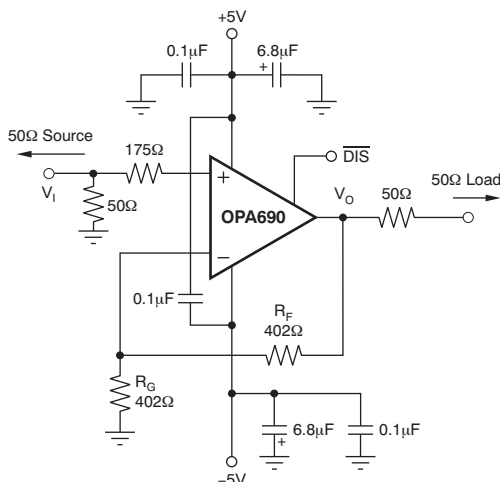
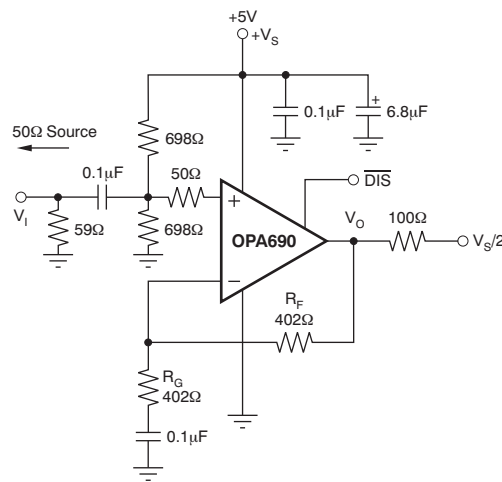
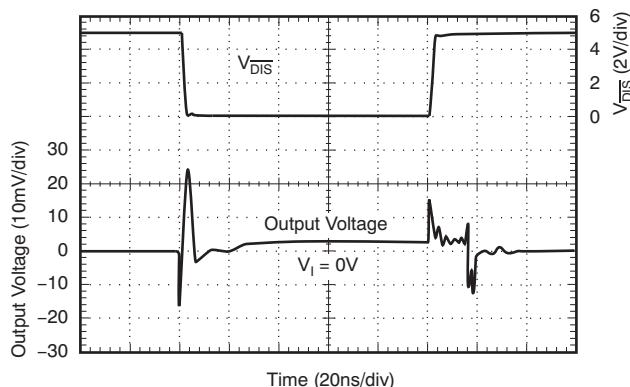

Figure 36. DC-Coupled, G = 2, Bipolar-Supply Specification and Test Circuit
Figure 37. AC-Coupled, G = 2, Single-Supply Specification and Test Circuit
Figure 44. Disable or Enable Glitch
$T_A = 25^\circ\text{C}$, $G = 2$, $R_F = 402\ \Omega$, and $R_L = 100\ \Omega$; see Figure 36 for AC performance only (unless otherwise noted)
$T_A = 25^\circ\text{C}$, $G = 2$, $R_F = 402\ \Omega$, and $R_L = 100\ \Omega$; see Figure 37 for AC performance only (unless otherwise noted)
Figure 36 shows the DC-coupled, gain of 2, dual power supply circuit configuration used as the basis of the ± 5 V and *Typical Characteristics: $V_S = \pm 5$ V*. For test purposes, the input impedance is set to 50 Ω with a resistor to ground and the output impedance is set to 50 Ω with a series output resistor. Voltage swings reported in the specifications are taken directly at the input and output pins, while output powers (dBm) are at the matched 50- Ω load. For the circuit of Figure 36, the total effective load is 100 $\Omega \parallel 804 \Omega$. The disable control line is typically left open to ensure normal amplifier operation. Two optional components are included in Figure 36. An additional resistor (175 Ω) is included in series with the noninverting input. Combined with the 25- Ω DC source resistance looking back towards the signal generator, this gives an input bias current cancelling resistance that matches the 200- Ω source resistance seen at the inverting input (see *DC Accuracy and Offset Control*). In addition to the usual power-supply decoupling capacitors to ground, a 0.1- μ F capacitor is included between the two power-supply pins. In practical printed-circuit board (PCB) layouts, this optional-added capacitor typically improves the 2nd-harmonic distortion performance by 3 dB to 6 dB.
Figure 37 shows the AC-coupled, gain of 2, single-supply circuit configuration which is the basis of the 5 V and *Typical Characteristics: 5 V*. Though not a rail-to-rail design, the OPA690 requires minimal input and output voltage headroom compared to other very wideband voltage-feedback op amps. It delivers a 3-V_{PP} output swing on a single 5-V supply with > 150-MHz bandwidth. The key requirement of broadband single-supply operation is to maintain input and output signal swings within the useable voltage ranges at both the input and the output. The circuit of Figure 37 establishes an input midpoint bias using a simple resistive divider from the 5-V supply (two 698-Ω resistors). The input signal is then AC-coupled into the midpoint voltage bias. The input voltage can swing to within 1.5 V of either supply pin, giving a 2-V_{PP} input signal range centered between the supply pins. The input impedance matching resistor (59 Ω) used for testing is adjusted to give a 50-Ω input load when the parallel combination of the biasing divider network is included.
Voltage-feedback op amps exhibit decreasing closed-loop bandwidth as the signal gain is increased. In theory, this relationship is described by the gain bandwidth product (GBP) shown in the *Electrical Characteristics: $V_S = \pm 5$ V*. Ideally, dividing GBP by the noninverting signal gain (also called the Noise Gain, or NG) predicts the closed-loop bandwidth. In practice, this only holds true when the phase margin approaches 90°, as it does in high gain configurations. At low gains (increased feedback factors), most amplifiers exhibit a more complex response with lower phase margin. The OPA690 is compensated to give a slightly peaked response in a noninverting gain of 2 (see Figure 36). This results in a typical gain of 2 bandwidth of 220 MHz, far exceeding that predicted by dividing the 300 MHz GBP by 2. Increasing the gain causes the phase margin to approach 90° and the bandwidth to more closely approach the predicted value of (GBP/NG). At a gain of 10, the 30-MHz bandwidth shown in *Electrical Characteristics: $V_S = \pm 5$ V* agrees with that predicted using the simple formula and the typical GBP of 300 MHz.
The frequency response in a gain of 2 may be modified to achieve exceptional flatness simply by increasing the noise gain to 2.5. One way to do this, without affecting the 2 signal gain, is to add an 804- Ω resistor across the two inputs in the circuit of Figure 36. A similar technique may be used to reduce peaking in unity-gain (voltage follower) applications. For example, by using a 402- Ω feedback resistor along with a 402- Ω resistor across the two op amp inputs, the voltage follower response is similar to the gain of 2 response of Figure 37. Reducing the value of the resistor across the op amp inputs further limits the frequency response due to increased noise gain.
Because the OPA690 is a general-purpose, wideband voltage-feedback op amp, all of the familiar op amp application circuits are available to the designer. Inverting operation is one of the more common requirements and offers several performance benefits. Figure 38 shows a typical inverting configuration where the I/O impedances and signal gain from Figure 36 are retained in an inverting circuit configuration.
The second major consideration, touched on in the previous paragraph, is that the signal source impedance becomes part of the noise gain equation and influences the bandwidth. For the example in Figure 38, the R_M value combines in parallel with the external 50- Ω source impedance, yielding an effective driving impedance of $50\ \Omega \parallel 67\ \Omega = 28.6\ \Omega$. This impedance is added in series with R_G for calculating the noise gain (NG). The resultant NG is 2.8 for Figure 38, as opposed to only 2 if R_M could be eliminated as discussed above. Therefore, the bandwidth is slightly lower for the gain of ± 2 circuit of Figure 38 than for the gain of 2 circuit of Figure 36.
The OPA690 provides good distortion performance into a 100-Ω load on ±5-V supplies. Relative to alternative solutions, it provides exceptional performance into lighter loads and/or operating on a single 5-V supply. Generally, until the fundamental signal reaches very high frequency or power levels, the 2nd-harmonic dominates the distortion with a negligible 3rd-harmonic component. Focusing then on the 2nd-harmonic, increasing the load impedance improves distortion directly. Remember that the total load includes the feedback network; in the noninverting configuration (see Figure 36), this is sum of $R_F + R_G$, while in the inverting configuration it is just R_F . Also, providing an additional supply-decoupling capacitor (0.1 μF) between the supply pins (for bipolar operation) improves the 2nd-order distortion slightly (3 dB to 6 dB).
Evaluating these two equations for the OPA690 circuit and component values (see Figure 36) gives a total output spot noise voltage of 12.3 nV/√Hz and a total equivalent input spot noise voltage of 6.1 nV/√Hz. This is including the noise added by the bias current cancellation resistor (175 Ω) on the noninverting input. This total input-referred spot noise voltage is only slightly higher than the 5.5-nV/√Hz specification for the op amp voltage noise alone. This is the case as long as the impedances appearing at each op amp input are limited to the previously recommend maximum value of 300 Ω. Keeping both (R_F || R_G) and the noninverting input source impedance less than 300 Ω satisfies both noise and frequency response flatness considerations. Because the resistor-induced noise is relatively negligible, additional capacitive decoupling across the bias current cancellation resistor (R_B) for the inverting op amp configuration of Figure 38 is not required.
The balanced input stage of a wideband voltage-feedback op amp allows good output DC accuracy in a wide variety of applications. The power-supply current trim for the OPA690 gives even tighter control than comparable amplifiers. Although the high-speed input stage does require relatively high input bias current (typically ±8 μA at each input terminal), the close matching between them may be used to reduce the output DC error caused by this current. The total output offset voltage may be considerably reduced by matching the DC source resistances appearing at the two inputs. This reduces the output dc error due to the input bias currents to the offset current times the feedback resistor. Evaluating the configuration of Figure 36, and using worst-case 25°C input offset voltage and current specifications, gives a worst-case output offset voltage equal to:
One key parameter in disable operation is the output glitch when switching in and out of the disabled mode. Figure 44 shows these glitches for the circuit of Figure 36 with the input signal at 0 V. The glitch waveform at the output pin is plotted along with the \overline{DIS} pin voltage.
The transition edge rate (dV/dt) of the \overline{DIS} control line influences this glitch. For the plot of Figure 44, the edge rate was reduced until no further reduction in glitch amplitude was observed. This approximately 1-V/ns maximum slew rate may be achieved by adding a simple RC filter into the \overline{DIS} pin from a higher speed logic line. If extremely fast transition logic is used, a 1-k Ω series resistor between the logic gate and the \overline{DIS} input pin provides adequate bandlimiting using just the parasitic input capacitance on the \overline{DIS} pin while still ensuring adequate logic level swing.
A good rule of thumb is to target the parallel combination of R_F and R_G (see Figure 36) to be less than approximately 300 Ω. The combined impedance $R_F \parallel R_G$ interacts with the inverting input capacitance, placing an additional pole in the feedback network and thus, a zero in the forward response. Assuming a 2-pF total parasitic on the inverting node, holding $R_F \parallel R_G < 300 \Omega$ keeps this pole above 250 MHz. By itself, this constraint implies that the feedback resistor R_F can increase to several kΩ at high gains. This is acceptable as long as the pole formed by R_F and any parasitic capacitance appearing in parallel is kept out of the frequency range of interest.
As a worst-case example, compute the maximum T_J using an OPA690-DBV (6-pin SOT-23 package) in the circuit of Figure 36 operating at the maximum specified ambient temperature of 85°C and driving a grounded 20-Ω load.
The *Single-Supply ADC Driver* shows one possible (inverting) interface. Figure 45 shows the test circuit of Figure 37 modified for a capacitive (ADC) load and with an optional output pulldown resistor (R_B).